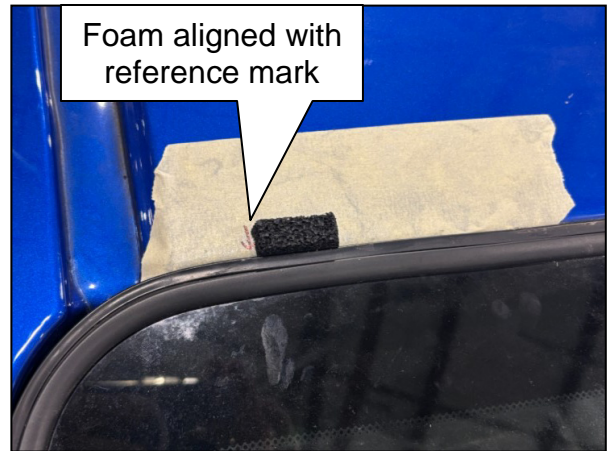

Figure 16
9. Place and align one (1) piece of foam with the reference mark made earlier, as shown in Figure 16.